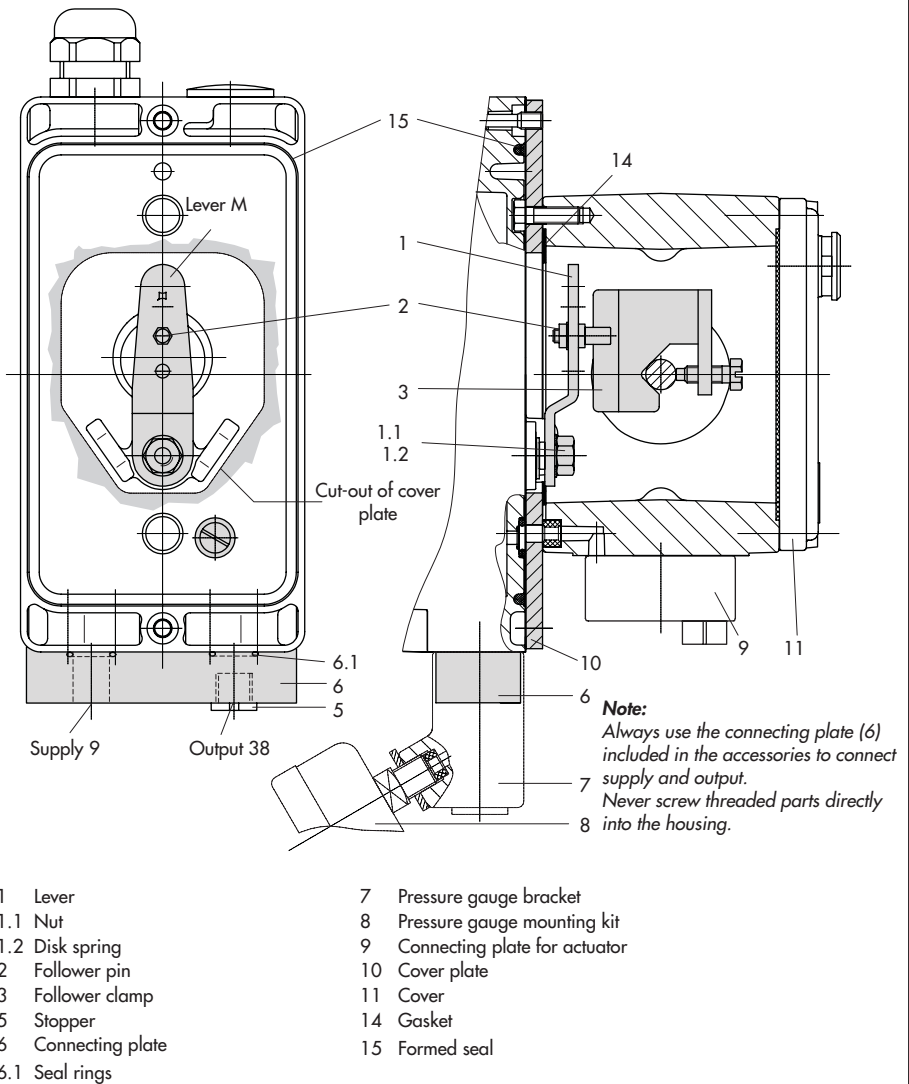

Fig. 4 · Direct attachment - Signal pressure connection for Type 3277-5 Actuator with 120 cm²
1. Mount connecting plate (9) on the actuator.
2. Mount connecting plate (6) or pressure gauge bracket (7) with pressure gauges onto the positioner, making sure both seal rings (6.1) are seated properly.
3. Place follower clamp (3) on the actuator stem, align and screw tight so that the mounting screw is located in the groove of the actuator stem.
4. Mount cover plate (10) with narrow side of the cut-out opening (Fig. 4, left) pointing towards the signal pressure connection. Make sure that the bonded gasket (14) points towards the actuator yoke.
5. **15 mm travel:** Keep the follower pin (2) at lever **M** (1) on the back of the positioner in the pin position **35** (delivered state).
**7.5 mm travel:** Remove the follower pin (2) from the pin position **35**, reposition it in the bore for pin position **25** and screw tight.